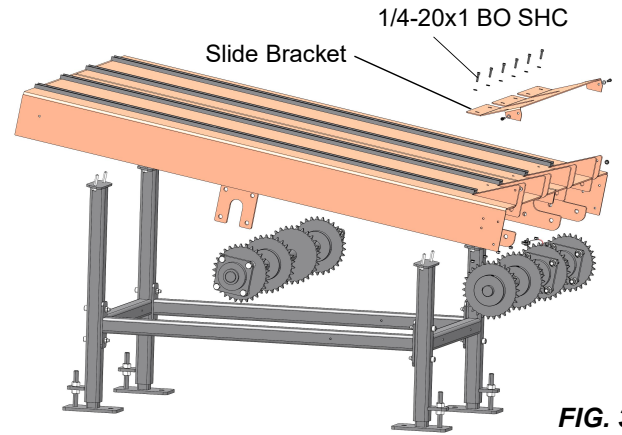

FIG. 3-12
1. Assemble the incline end section legs and table in the same manner as the drive section. See FIG. 3-12.
3. Assemble and install the down shaft as shown in FIG. 3-12.